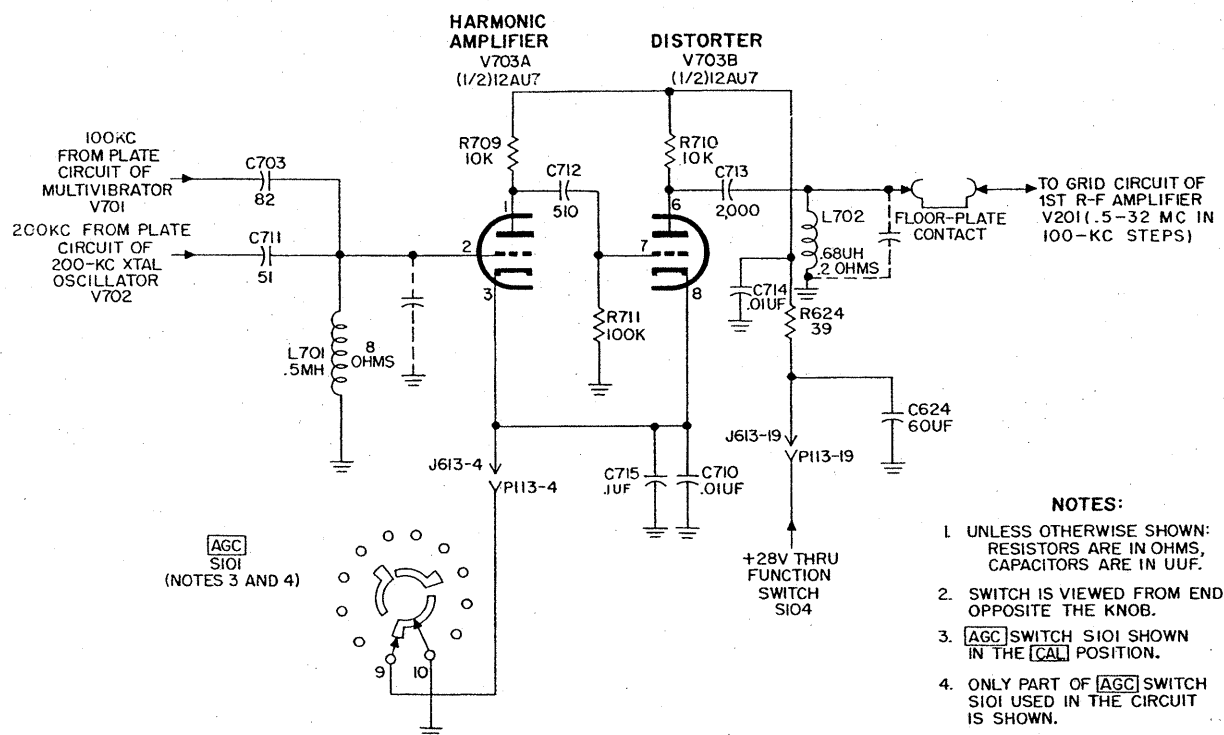

Figure 24. Harmonic amplifier V703A and distorter V703B, simplified schematic diagram.
31. Harmonic Amplifier V703A (fig. 24)
32. Distorter V703B (fig. 24)